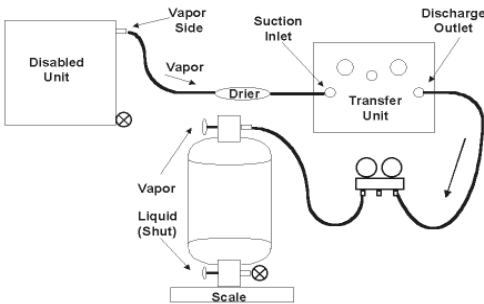

Figure 3: Vapor Recovery
- If performing vapor recovery, arrange hoses as indicated in **Fig. 3**.
- Use gauge set on vapor line to transfer hoses on recovery machine to configuration in Fig. 3.